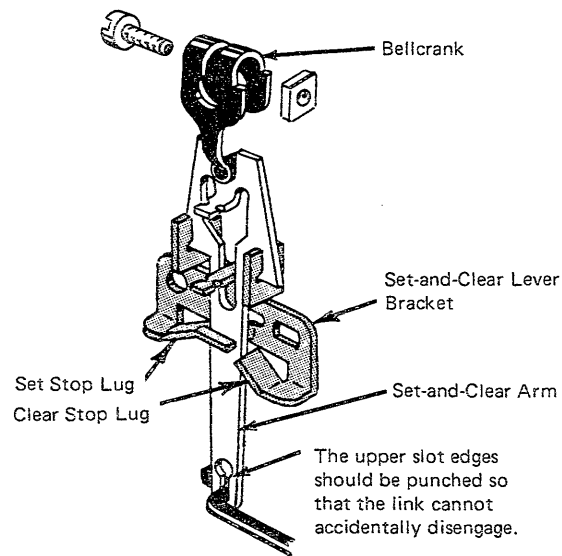

Figure 3-279. Set-and-Clear Arm Stops
Adjust the bellcrank (Figure 3-279) attached to the left end of the tab rack so that an unset tab stop is centered between the tab-lever pawl and the tab-set lug on the escapement bracket. Latch the tab lever to the rear to check this adjustment.
Form the tab-set stop lug on the set-and-clear bracket (Figure 3-279) so that the tab-lever pawl, when latched out, will engage a set tab stop approximately in the center of the tab stop.
3. Adjust the clear stop lug on the set-and-clear bracket (Figure 3-279) so that the stop will limit the tab-rack rotation after a set tab stop is cleared. Do not let the stop limit be determined by the tab stops "bottoming" in the tab-rack slots.